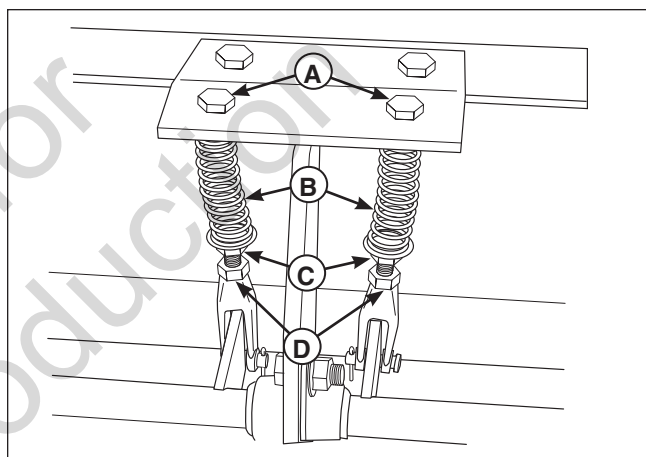

Figure 33. Neutral Spring Return Adjustment
3. Move the ground speed control levers towards the neutral position. If the levers do not align with the notches in the neutral lock plate, it is necessary to adjust the reverse return bolts (A, Figure 33).
1. Loosen the jam nut (D, Figure 33) locked against the clevis.
2. Turn the reverse return bolt (A) clockwise to adjust handle rearward, counter-clockwise to adjust handle forward.
After adjusting the neutral position, lock the levers in the neutral position and measure the reverse return spring (B, Figure 33) length. This should be 2-3/8” (6,03 cm) long. If not, hold the reverse return bolt (A) with a wrench while turning the spring position nut (C) until the measurement is achieved.